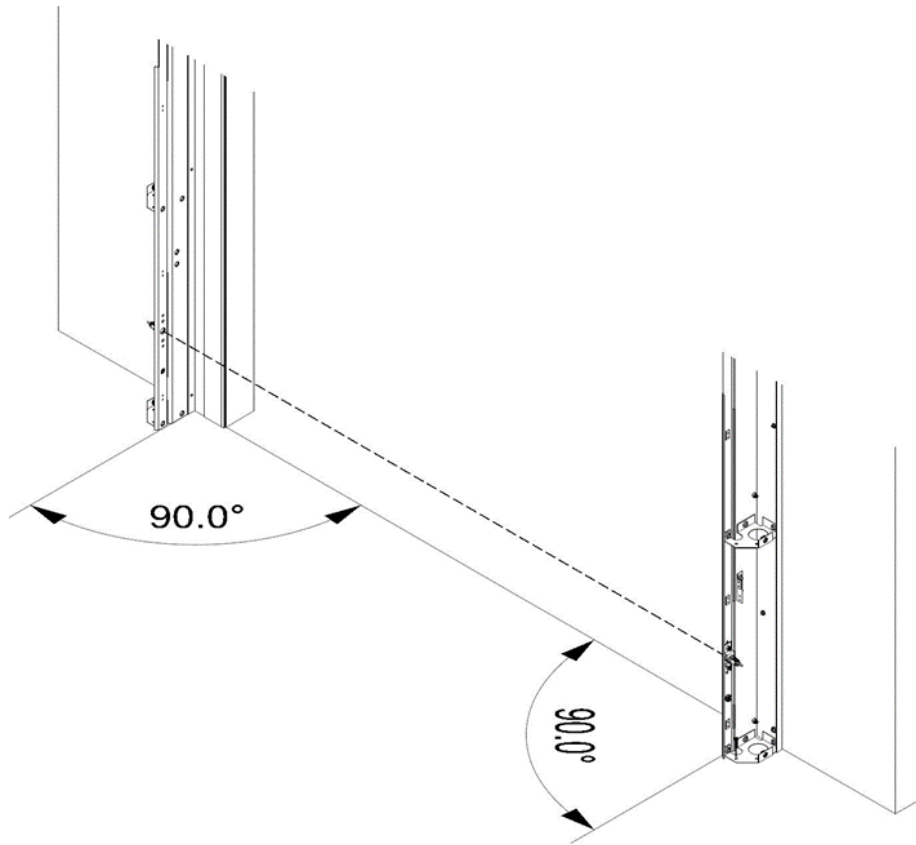
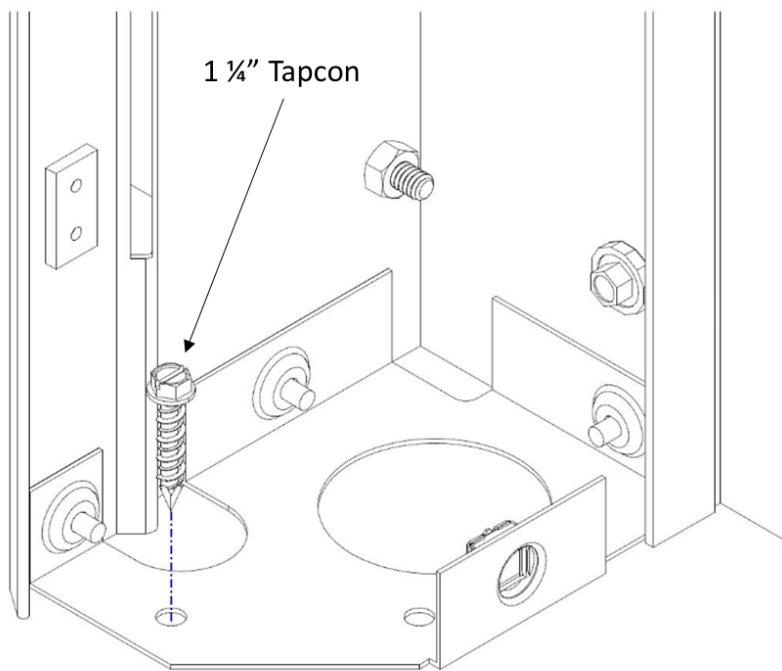

Figure 7: Infrared Safety Sensor Alignment
Figure 8: Tapcon Installation
7. It is imperative that the tracks be secured to the floor properly so that the Infrared Safety Beams are aligned with each other as shown in Figure 7. Once the tracks are square, at least one tapcon should be used to secure the bottom of the tracks to the floor as shown in Figure 8. If the Safety Beams are not aligned, the “PS” LED will be on when looking at the smart switch.